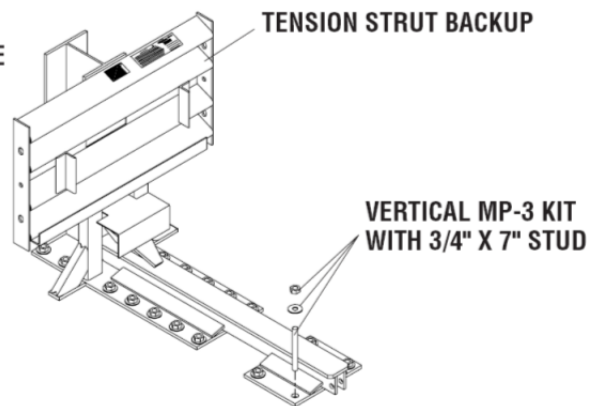

Figure 17
B) Tension Strut Backup Assembly (Figure 17)